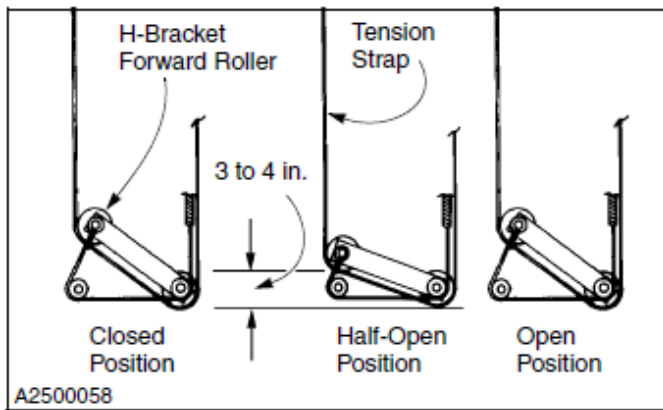

Figure 61
14. Check the height of the H-bracket forward roller when the door is at the half-open position. It will have dropped below the 7 to 8 in. described in step 5, but should not drop below 3 to 4 in. above the side column base plate. The H-bracket should also be in the positions shown in Figure 61 as the door moves up and down. It should never go below the 3 to 4 in. position. Readjust as required.